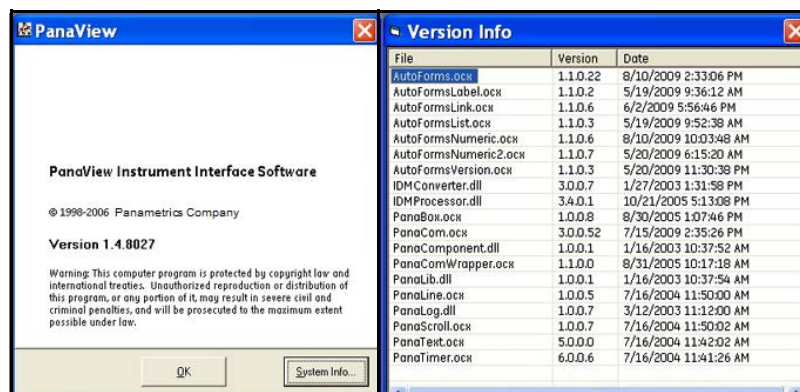

Figure 21: The About PanaView and Version Information Screens
The “*About PanaView*” option provides information on your version of the software and about your computer system. To access this information, simply click on the “*About PanaView*” option and a screen similar to the one on the left in *Figure 21* below opens. To access data on the PanaView components for this version, click on “*Version Info*” and a screen similar to the one on the right in *Figure 21* below opens.
- The screen shown on the left in *Figure 21* below shows the *version number* of the currently installed copy of PanaView, which may differ from the example shown here.
- The screen on the right in *Figure 21* below, which includes the version information, lists data on the various components of the PanaView software.